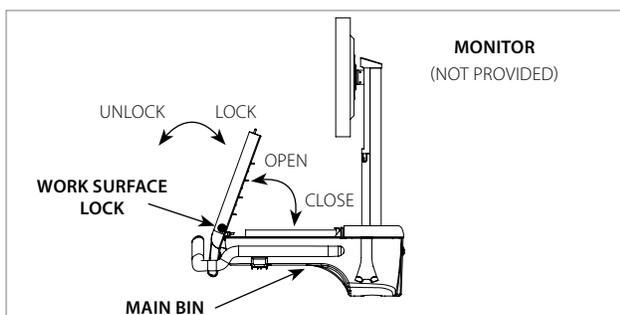

Figure 15
2. Lift the Work Surface upwards to access the interior of the **MAIN BIN** (Figure 15).
5. To close, lower the Work Surface until it is resting on the **MAIN BIN** and turn the key clockwise (CW) to lock.